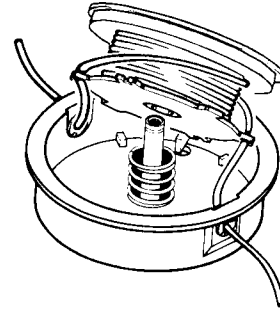

Figure 8-2D
6. Lock each end into a slot on opposite sides of the spool. Install the spring over the spindle. Insert each end of the line through an eyelet in the housing and lower the spool into the housing while feeding the line through the eyelets. Ensure the spring seats itself into the spool. (Figure 8-2D)